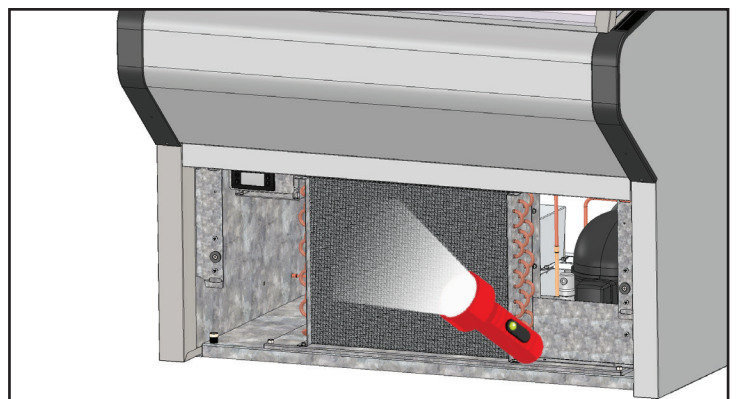

Fig. 4. Verify all blockages have been removed.
5. With dirt removed from the surface of the coil, use a flashlight to verify that you can see through the coil and observe the condenser fan blade spinning. See fig. 4.